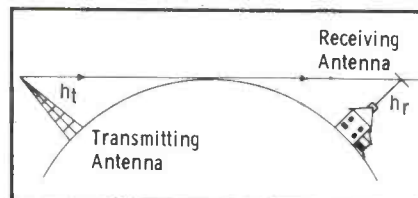

Fig. 5. Distance between antennas is the sum of the two distances to the horizon.
Equation (7) does not consider the height of the receiving antenna. Fig. 5 illustrates that the maximum line-of-sight distance is the total of the line-of-sight distance of each antenna. Thus, the maximum distance that a receiver can be removed from the transmitter and still intercept the signal from the transmitter becomes